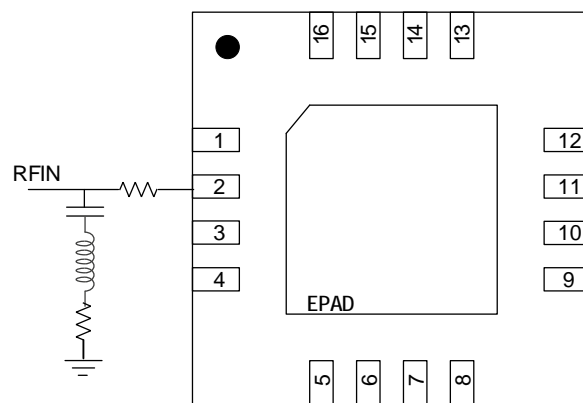

Figure 47. Recommended RF Input Circuit Implementation for Large-Signal Linearity Optimization – 3600MHz to 4200MHz Range
For optimized large-signal linearity when operating near and above compression levels in the 3600MHz – 4200MHz frequency range, it is recommended to implement the RF input circuit as shown in Figure 47. See F1485 Application Note for more information.
The ground should be solid ground planes. The ground paddle should be connected to other ground planes adjacent to the bottom and corners of the device on the top layer and it is recommended to have it connected to all the NC pins on the top layer as well to ensure optimal performance. Place more vias around the part where possible. Figure 47 shows additional recommended placement of ground vias:
- Flood the area with ground vias between RF\_IN and VCC traces (Area 1 in Figure 47).
- Flood the area with ground vias between RF\_OUT and Vcc traces (Area 2 in Figure 47).
- Flood the area with ground vias between RF\_OUT and VBIAS traces (Area 3 in Figure 47).